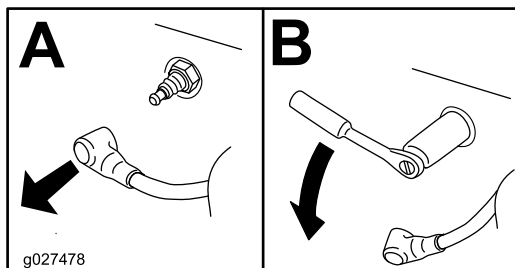

Figure 46
4. Remove the spark plug (Figure 46).